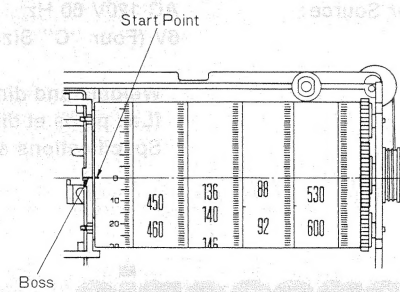

Fig. 7
11. Set start point of dial scale at the position, as shown in fig. 7.